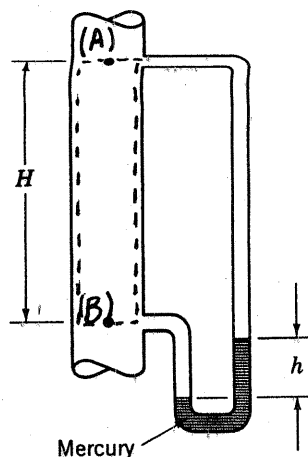

FIGURE P5.95
5.95 Water flows through a vertical pipe, as is indicated in Fig. P5.95. Is the flow up or down in the pipe? Explain.